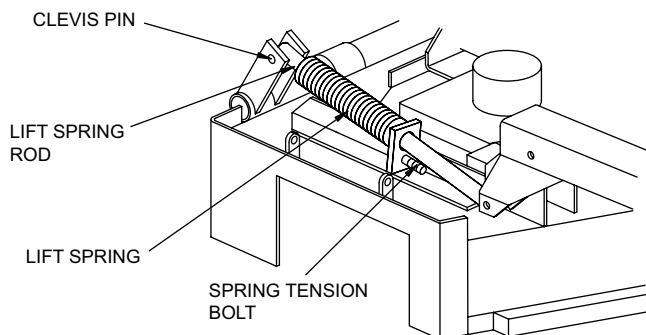

FIG. 2
4. To adjust the deck height, remove the clevis pin from the lift spring rod. This may be accomplished by moving the lift arm to a point that relieves the pressure off the pin. (See fig. 2) To raise the deck, thread the back of the